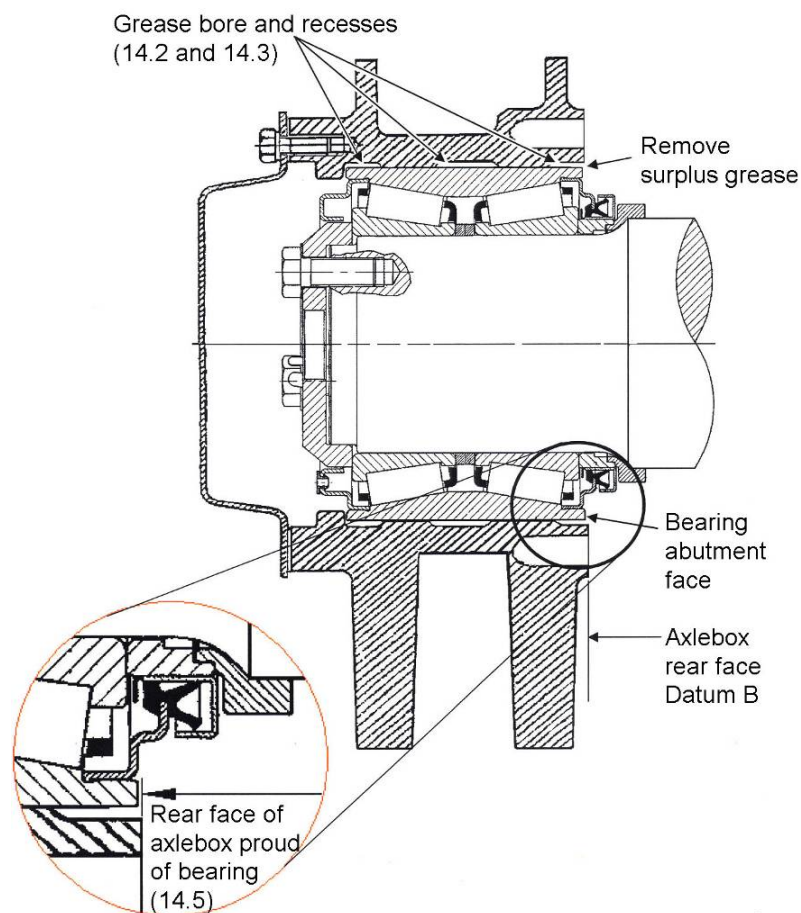
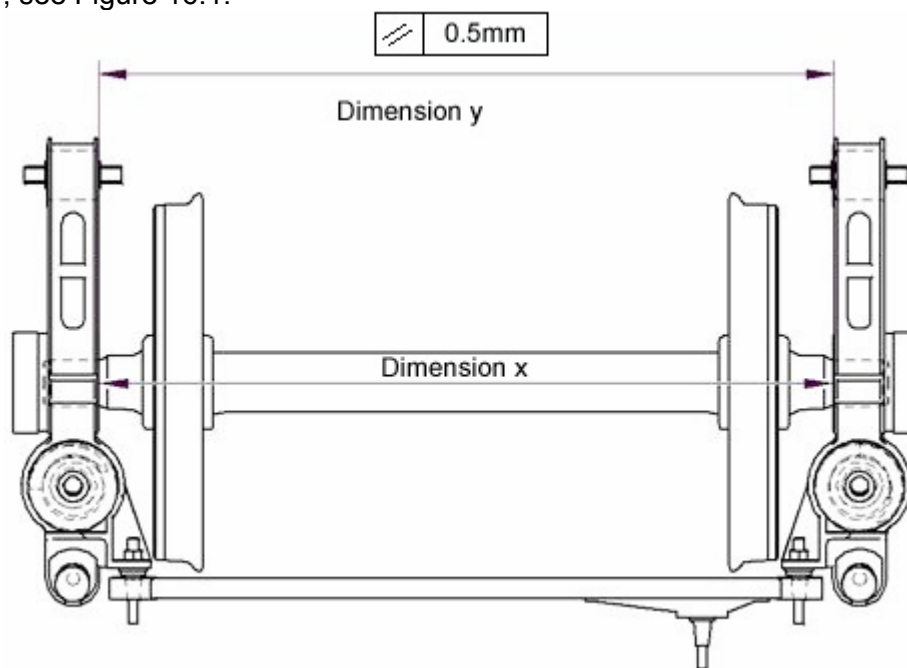

Figure 14.1: Diagram of Axlebox and Bearing
Figure 16.1: Measurement of Axlebox Parallelism
- 14.3 Ensure that the three bore recesses are full of grease over the full diameter by smoothing with a metal spatula or similar tool (see Figure 14.1).
- 14.5 Position the axleboxes on each bearing so that the back face is just proud of the rear bearing abutment face. This can be checked using a straight edge held against the back face of the axlebox, reference Figure 14.1 detail.
16.1 Check that the bearing abutment face is not standing proud of the axlebox rear face on both sides of the axle. Adjust the axleboxes, by hand, with the LCR fitted so that the distance between the axlebox rear face and bearing abutment face is approximately equal both sides (see Figure 14.1).
16.2 Using a FARO arm measuring machine (or approved equivalent), set up datums from the axle centre line and the back faces of the wheels. Measure the distance between the axlebox rear faces on the axle centre line and record the dimension 'x', see Figure 16.1.
16.3 Maintaining the same datums, measure the distance between the axlebox rear faces at the pivot bush centre line and record dimension 'y', see Figure 16.1.
16.4 Adjust the axleboxes on the bearings so that the measurement across the back face of the axlebox at the centre line (Dimension 'x') is equal to that measured at the pivot bush centre line (Dimension 'y'), within 0.5mm, see Figure 16.1. This shall be achieved with the bearing abutment faces remaining flush to under flush measured against the axlebox rear face, see Figure 14.1.